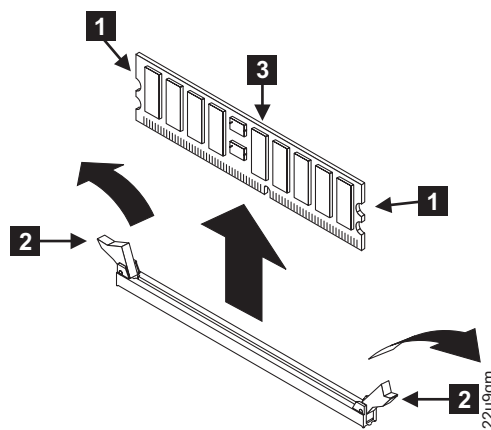

Figure 104. Removing the memory modules
4. Open the clips **2** by pressing them outward. This action pulls the memory module **3** out of the connector. See Figure 104.